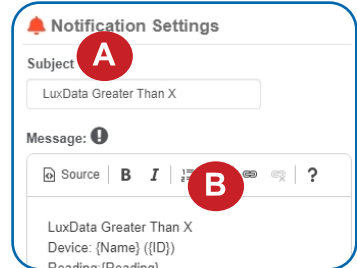

Figure 18
- A. Input the subject for the notification. See Figure 18.
- B. Customize the message body for the notification. See Figure 18.